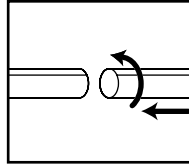

FIGURE 17
24. Attach the extension wands to the accessory end of the hose. Twist slightly to tighten the connection. **FIGURE 17.**
25. Attach one of the cleaning accessories (depending on your cleaning requirements) on the extension wands. Twist slightly to tighten the connection. **FIGURE 17.**